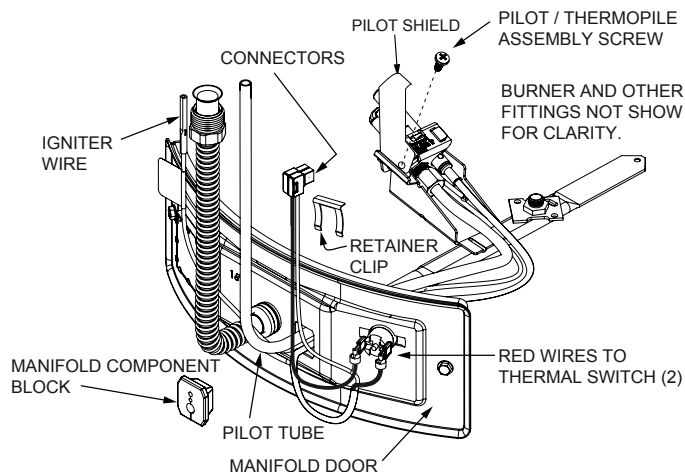

FIGURE 23.
2. Remove the burner to access the pilot/thermopile assembly. Remove and keep the screws securing the burner to the manifold (Figure 23). **IMPORTANT: DO NOT** remove the orifice.
3. Remove the screw securing the pilot/thermopile assembly and pilot shield to the pilot bracket and keep for reuse later (Figure 23).
4. Lift the retainer clip straight up from the back of the manifold component block (using a flat-blade screwdriver), then remove the manifold component block from the manifold door (Figure 23). **IMPORTANT:** Be careful not to bend or alter the position of the pilot tube. It will be used as a bending template for the new pilot assembly. Note the placement/order of the wires in the manifold component block.
7. Route the new pilot tube, igniter wire and thermopile wire through the opening in the manifold door. See Figure 23.